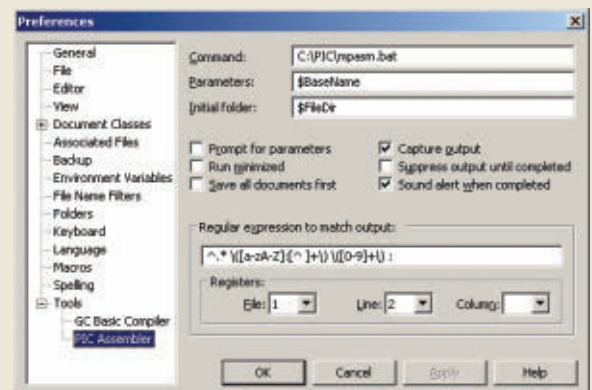
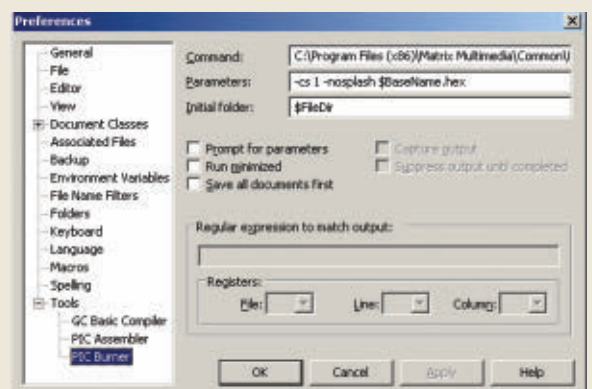

Figure 4: The tool entry box for the assembler.
Figure 5: The tool entry box for my burner. Yours may differ somewhat.
You will follow similar steps to add the assembler tool. In this case, TextPad will invoke the MPASM.BAT batch file mentioned earlier. Remember, I've included this file in the article downloads for your convenience. The entry box for this in TextPad is shown in **Figure 4**. Next, install a tool to bring up the burner. Naturally, this will be specific to whatever hardware you're using. Just so you can anticipate the sort of thing you'll be doing, there's a screenshot of my system in **Figure 5**.
■ FIGURE 5. Piezo on a breadboard.
We can then bend the legs down as shown in **Figure 4**, thus allowing the piezo to be used on a breadboard without covering holes unnecessarily (as shown in **Figure 5**). Since we will be bending these legs like this, let's draw the part as showing the legs coming out the side so that it will appear in Fritzing the same as on the real breadboard.
■ FIGURE 4. Piezos with legs bent.